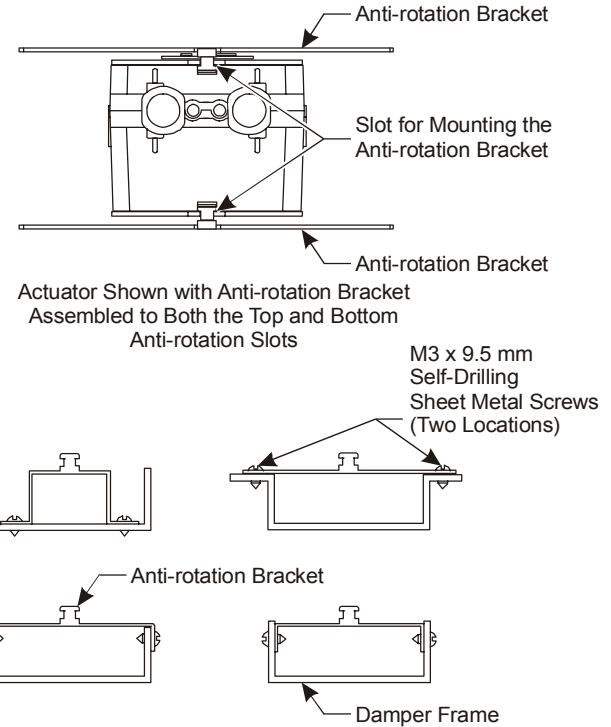

Figure 6: Fitting the Anti-Rotation Bracket on the Damper Frame or Duct
2. Bend or cut the anti-rotation bracket to fit the damper frame or duct as illustrated in Figure 6.
5. Slide the actuator onto the damper shaft, and position the tab of the anti-rotation bracket into the slot at the bottom of the actuator as illustrated in Figure 6.